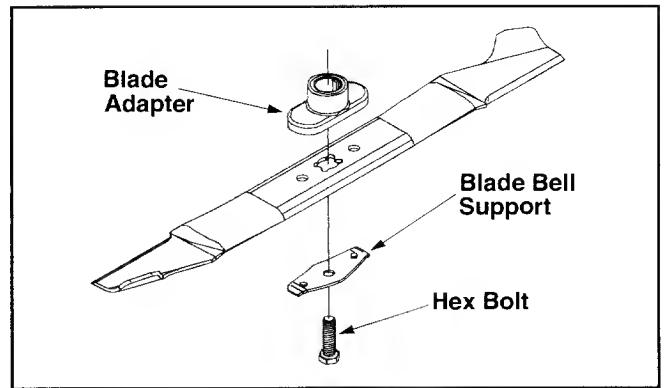

Figure 17
- Remove the bolt and the blade bell support which hold the blade and the blade adapter to the engine crankshaft. See Figure 17.